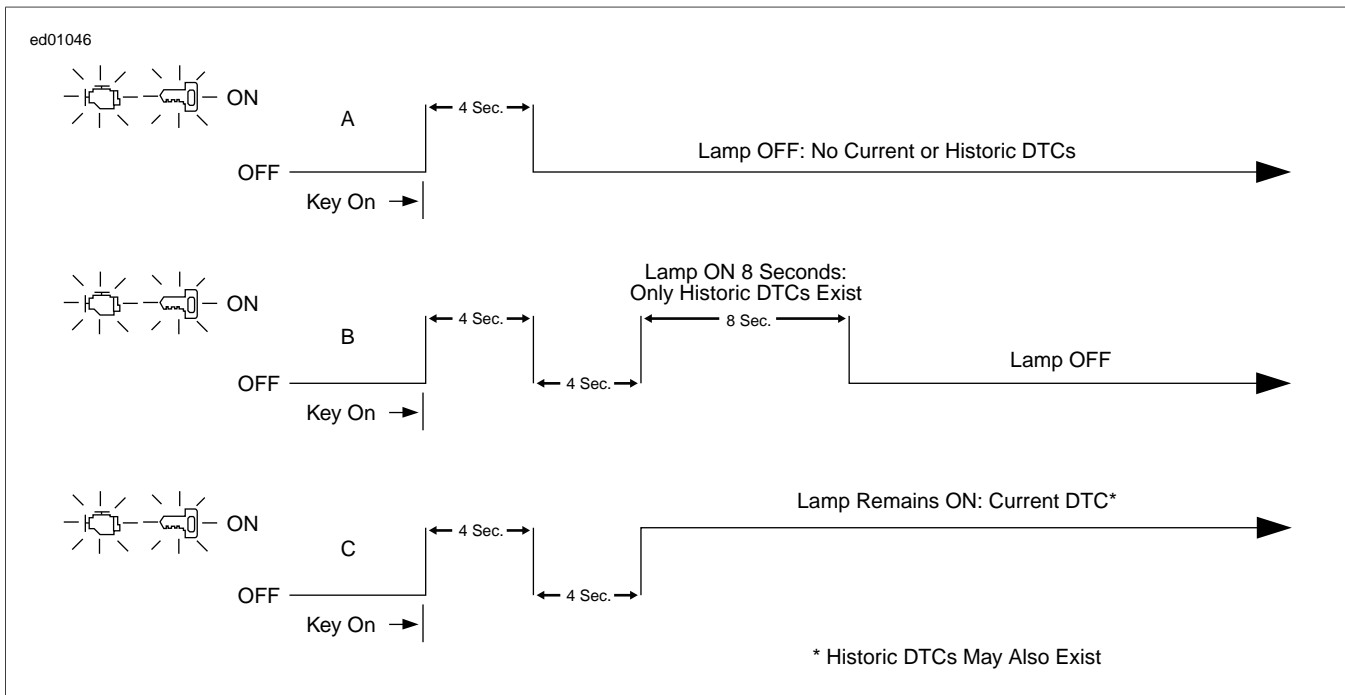

Figure 2-3. Check Engine and Security Lamp Operation
1. See Figure 2-3. After the check engine lamp turns off following the first four-second illumination period, one of three events may occur:
- See Figure 2-3. After the security lamp turns off following the first four-second illumination period, one of three events may occur: